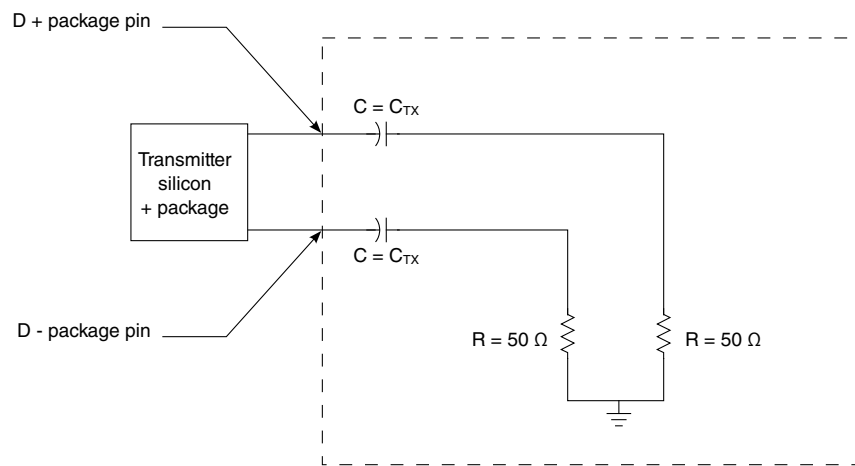

Figure 38. Test and measurement load
1. Specified at the measurement point into a timing and voltage test load as shown in Figure 38 and measured over any 250 consecutive transmitter UIs.
Notes: - Specified at the measurement point and measured over any 250 consecutive UIs. The test load in Figure 38 must be used as the receiver device when taking measurements. If the clocks to the receiver and transmitter are not derived from the same reference clock, the transmitter UI recovered from 3500 consecutive UI must be used as a reference for the eye diagram. - A $T_{RX-EYE} = 0.40$ UI provides for a total sum of 0.60 UI deterministic and random jitter budget for the transmitter and interconnect collected any 250 consecutive UIs. The $T_{RX-EYE-MEDIAN-to-MAX-JITTER}$ specification ensures a jitter distribution in which the median and the maximum deviation from the median is less than half of the total. UI jitter budget collected over any 250 consecutive transmitter UIs. It must be noted that the median is not the same as the mean. The jitter median describes the point in time where the number of jitter points on either side is approximately equal as opposed to the averaged time value. If the clocks to the receiver and transmitter are not derived from the same reference clock, the transmitter UI recovered from 3500 consecutive UI must be used as the reference for the eye diagram. - It is recommended that the recovered transmitter UI is calculated using all edges in the 3500 consecutive UI interval with a fit algorithm using a minimization merit function. Least squares and median deviation fits have worked well with experimental and simulated data. - For recommended operating conditions, see Table 3.